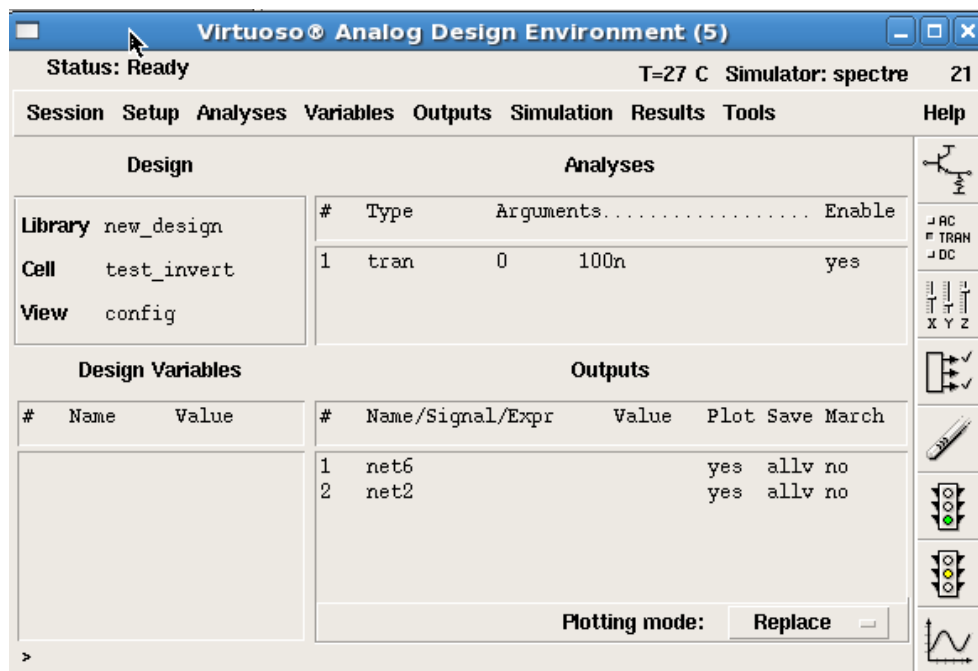

Fig.33
2.Open the Analog Artist environment and use the config view of the test fixture for simulation (fig 33). You can also output the simulation netlist to make sure the ‘av_extracted’ view of our design in the configuration file is used for simulation rather than the ‘schematic’ view.